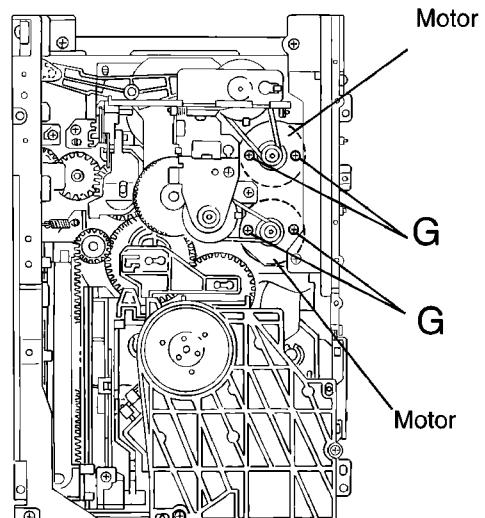

Fig.15
■Removing the motors (See Fig.15)